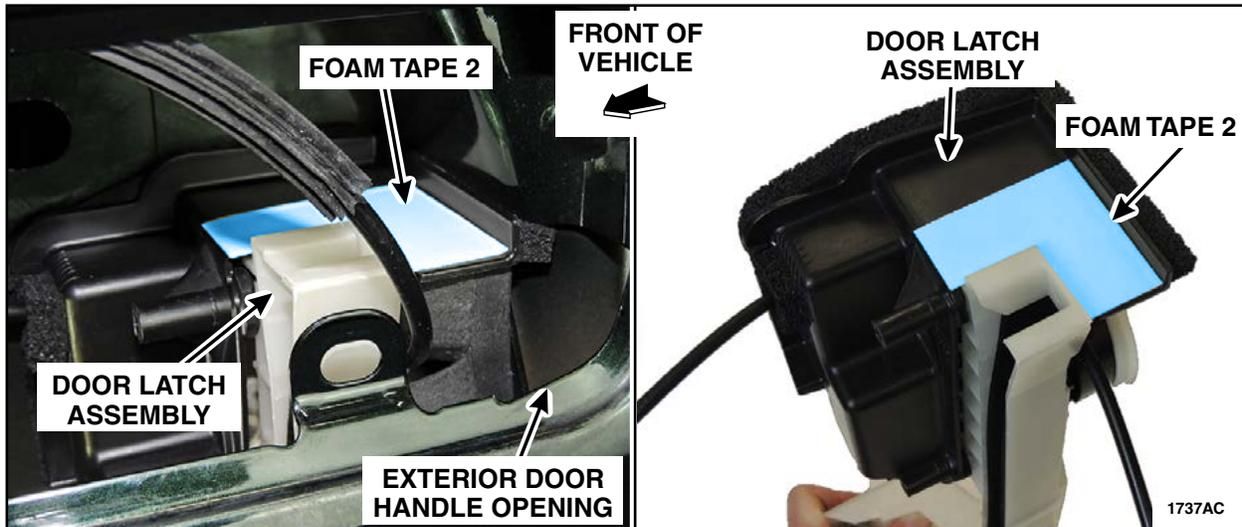

FIGURE 81
3. Clean the highlighted area on top of the door latch water shield with isopropyl alcohol and a clean shop towel where the Foam Tape 2 will be installed. See Figure 81.